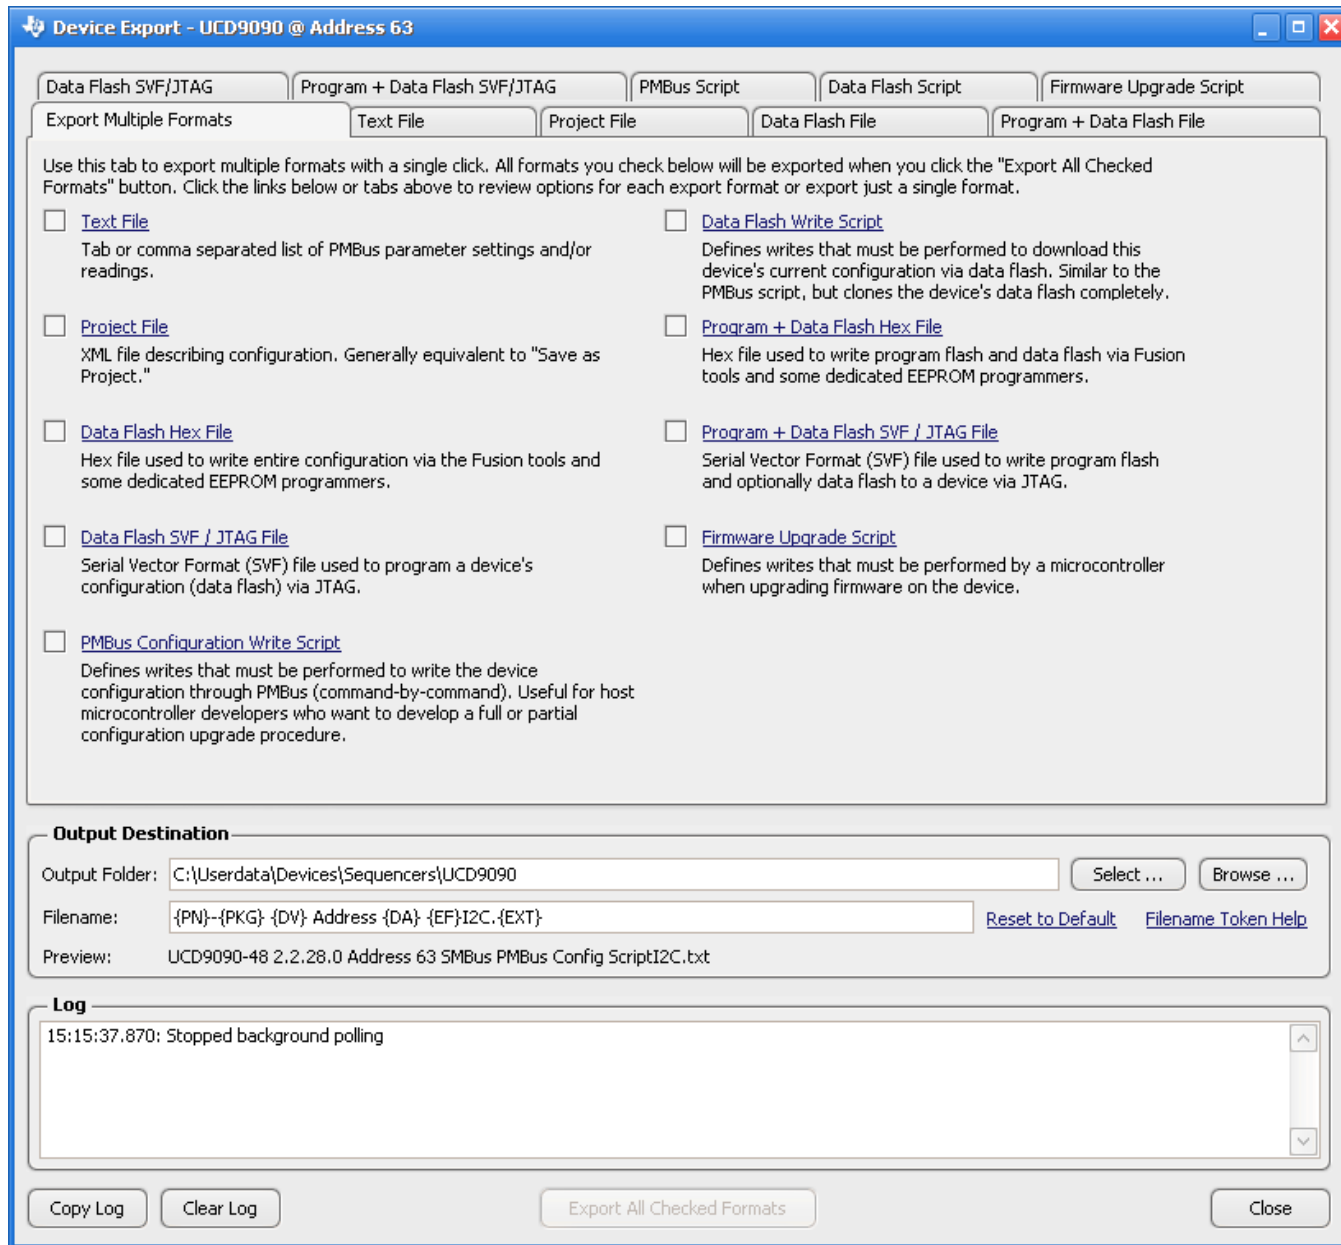

Figure 29. Fusion GUI Device Configuration Export Tool
- Another in-circuit programming option is for the *Fusion GUI* to create a data flash image from the configuration file (Figure 29). The configuration files can be exported in Intel Hex, Serial Vector Format (SVF) and S-record. The image file can be downloaded into the device using I2C or JTAG. The *Fusion GUI* tools can be used on-board if the *Fusion GUI* can gain ownership of the target board I2C bus.